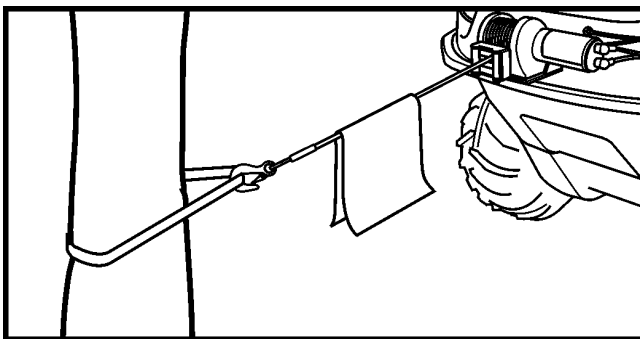

Figure 11-20. Using a cloth damper.
9. It is a good idea to lay a heavy blanket or jacket over the wire rope near the hook end when pulling heavy loads (Figure 11-20). If a wire rope failure should occur, the cloth will act as a damper and help prevent the rope from whipping.